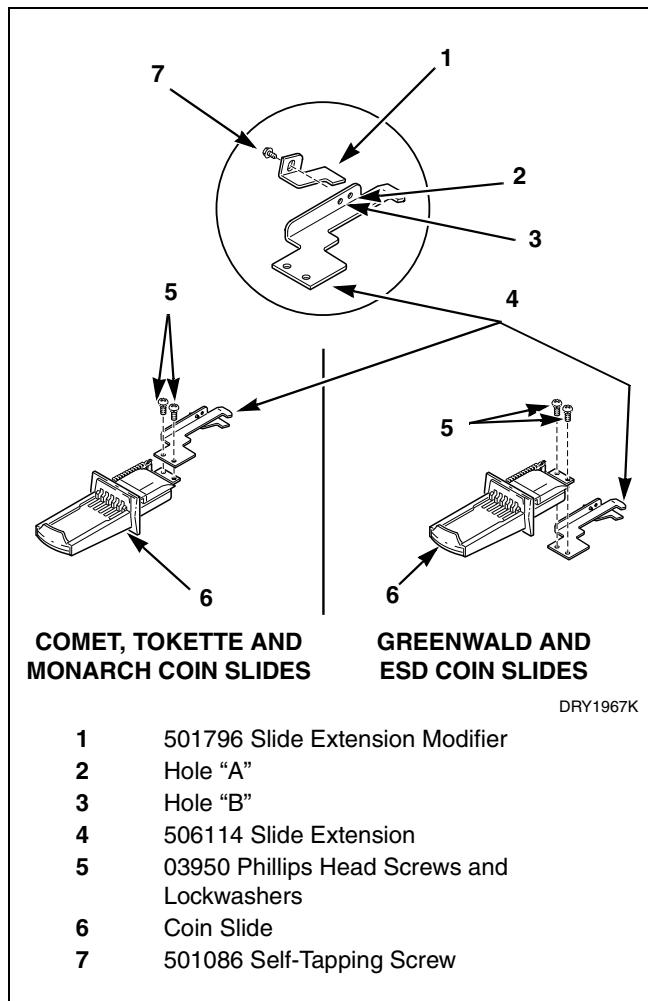

Figure 4
2. **For Comet, Tokette and Monarch coin slides:** Assemble the slide extension, No. 506114, to the top side of the coin slide using the two Phillips head screws and lockwashers, No. 511419, and tighten firmly. Refer to *Figure 4*.
Assemble the slide extension, No. 506114, to the bottom side of the coin slide using the two Phillips head screws and lockwashers, No. 511419, and tighten firmly. Refer to *Figure 4*.
- **ESD Coin Slide** – Mount the slide extension modifier, No. 501796, to the underside of the slide extension, No. 506114. Align the hole in the slide extension modifier with hole “A” in the slide extension and install the self-tapping screw, No. 501086, and tighten firmly. Refer to *Figure 4*.
- **GREENWALD Comet Slide, GREENWALD Tokette Slide or MONARCH Coin Slide** – Mount the slide extension modifier, No. 501796, to the underside of the slide extension, No. 506114. Align the hole in the slide extension modifier with hole “B” in the slide extension and install the self-tapping screw, No. 501086, and tighten firmly. Refer to *Figure 4*.